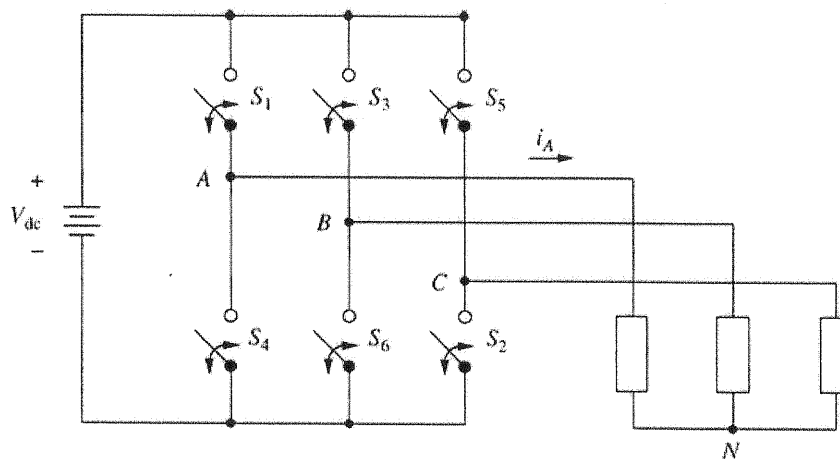

Figure 7
- b. The circuit illustrated in **Figure 7** shows an inverter circuit which converts a DC Power into AC power at desired output voltage and frequency. Switch pair in each leg, i.e. S1 S4, S3 S6 and S5 S2 are turned-on with a time interval of 180° . It means that switches S1 conducts for 180° and switch S4 for the next 180° of a cycle. This six-step three-phase inverter has an adjustable dc input. The load is a balanced Y connection with a series RL combination in each phase, with $R = 5\Omega$ and $L = 50 \text{ mH}$. The output frequency is to be varied between 30 and 60 Hz. **Determine the range of the dc input voltage required to maintain the fundamental-frequency component of current at 10 A rms.**